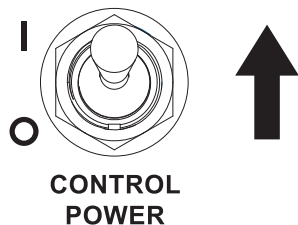

Figure 3-44. Controller Power ON
- See Figure 3-44. Switch controller power to ON (I).